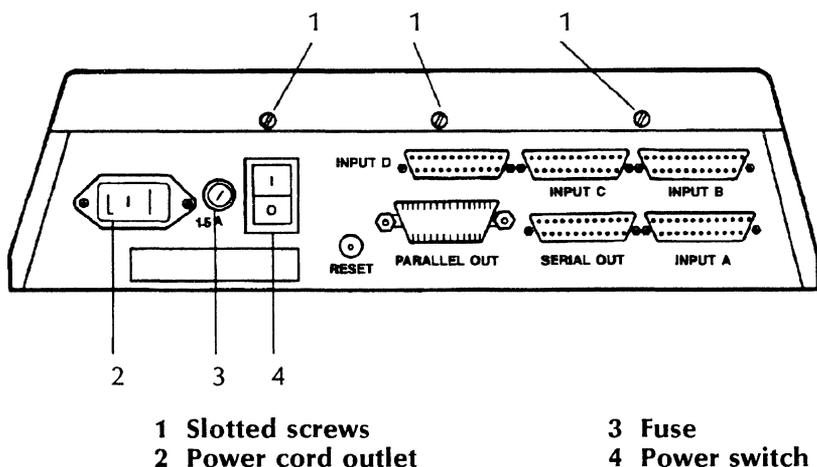

Figure 6-15 Back of serial ISD with four serial inputs
1. To connect a serial host, locate the female interface cable connector on the back of the 280 ISD labeled **INPUT A**. See Fig. 6-15. Attach one end of the interface cable to the interface connector, and tighten the two slotted screws located on either side of the male interface connector.
1. Locate the female connector on the back of the ISD labeled **SERIAL OUT**. See Fig. 6-15 and Fig. 6-16. Attach one end of the interface cable (not provided) to the ISD's female connector and tighten the screws on either side of the male interface connector.
1. Locate the female interface cable connector on the back of the ISD labeled **PARALLEL OUT**. See Fig. 6-15 and Fig. 6-16. Attach one end of the interface cable (Xerox provided) to the interface cable connector and flip the wire bails in toward the cable.
2. Connect the female connector of the power cord into the power input on the back of the ISD. Refer to Fig. 6-15 and Fig. 6-16.
2. Once the **READY** indicator appears in the control panel of the 4045, turn the ISD on. The ISD is turned on by pressing the black power toggle switch located on the back of the ISD. See Fig. 6-15 and Fig. 6-16.
Note: The Reset button, Fig. 6-15 and Fig. 6-16, has the same effect as turning the machine off and then on. All the memory in the buffer is lost.